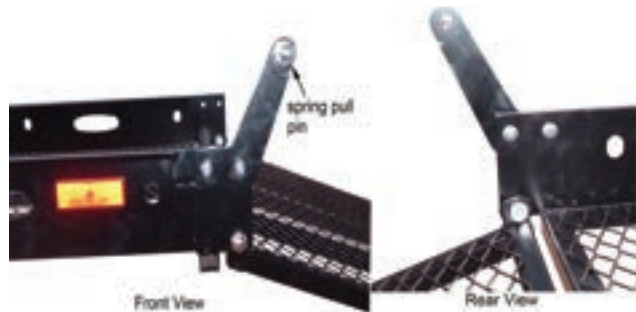

Figure 4-4
4. Screw spring pull pin into jam nut. Screw spring pull pin into ramp bracket. Bolt bracket to frame and secure with nuts and lock washers. *See Figure 4-4.*